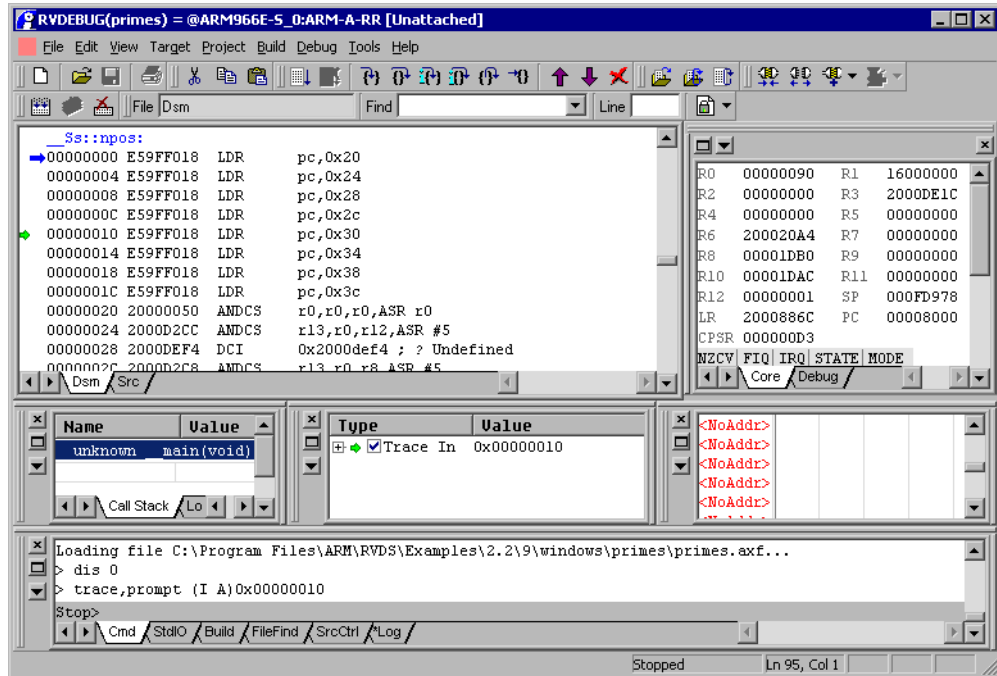

Figure 2-44 Setting a trigger point
- d. In the List Selection dialog box, select **Set Trigger** and click **OK**. Another arrow  is placed next to the address 0x10. This arrow indicates the trigger point you have set, and details of this trigger tracepoint are displayed in the Break/Tracepoints pane of the Code window, as shown in Figure 2-44.